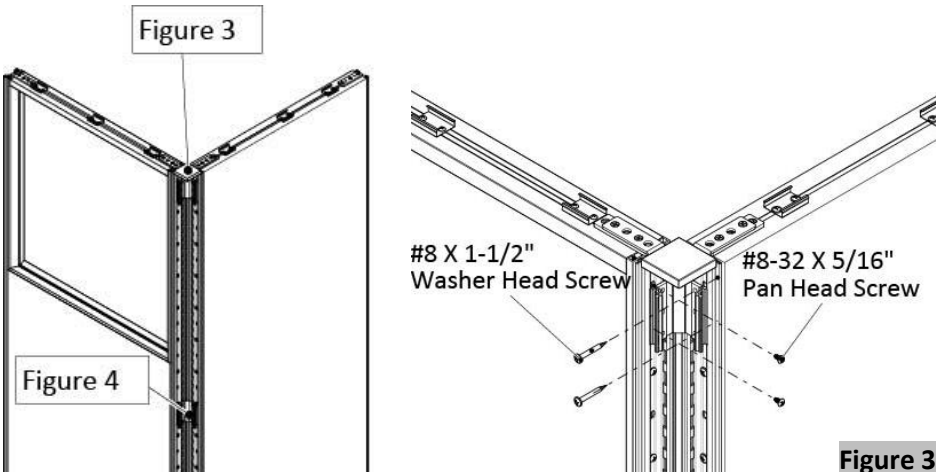

Figure 3
5. Position the 90-degree filler connector at the desired location, (Figure 3).